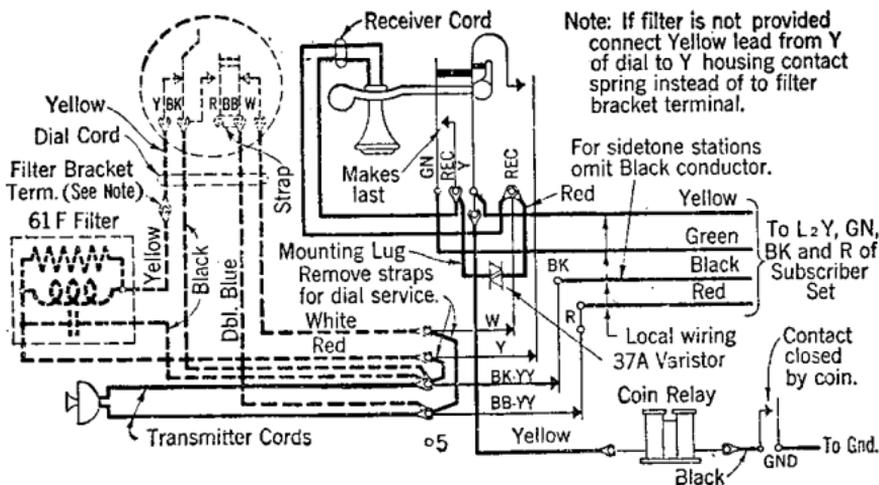

Fig. 4—161C or D Coin Collectors—For Manual or Dial Anti-Sidetone Stations
2.02 If coin collectors shown in Figs. 4, 5 and 6 are connected to sidetone subscriber sets omit black conductor between set and coin collector. Anti-sidetone subscriber sets should be used for new installations with these coin collectors, in preference to sidetone sets.